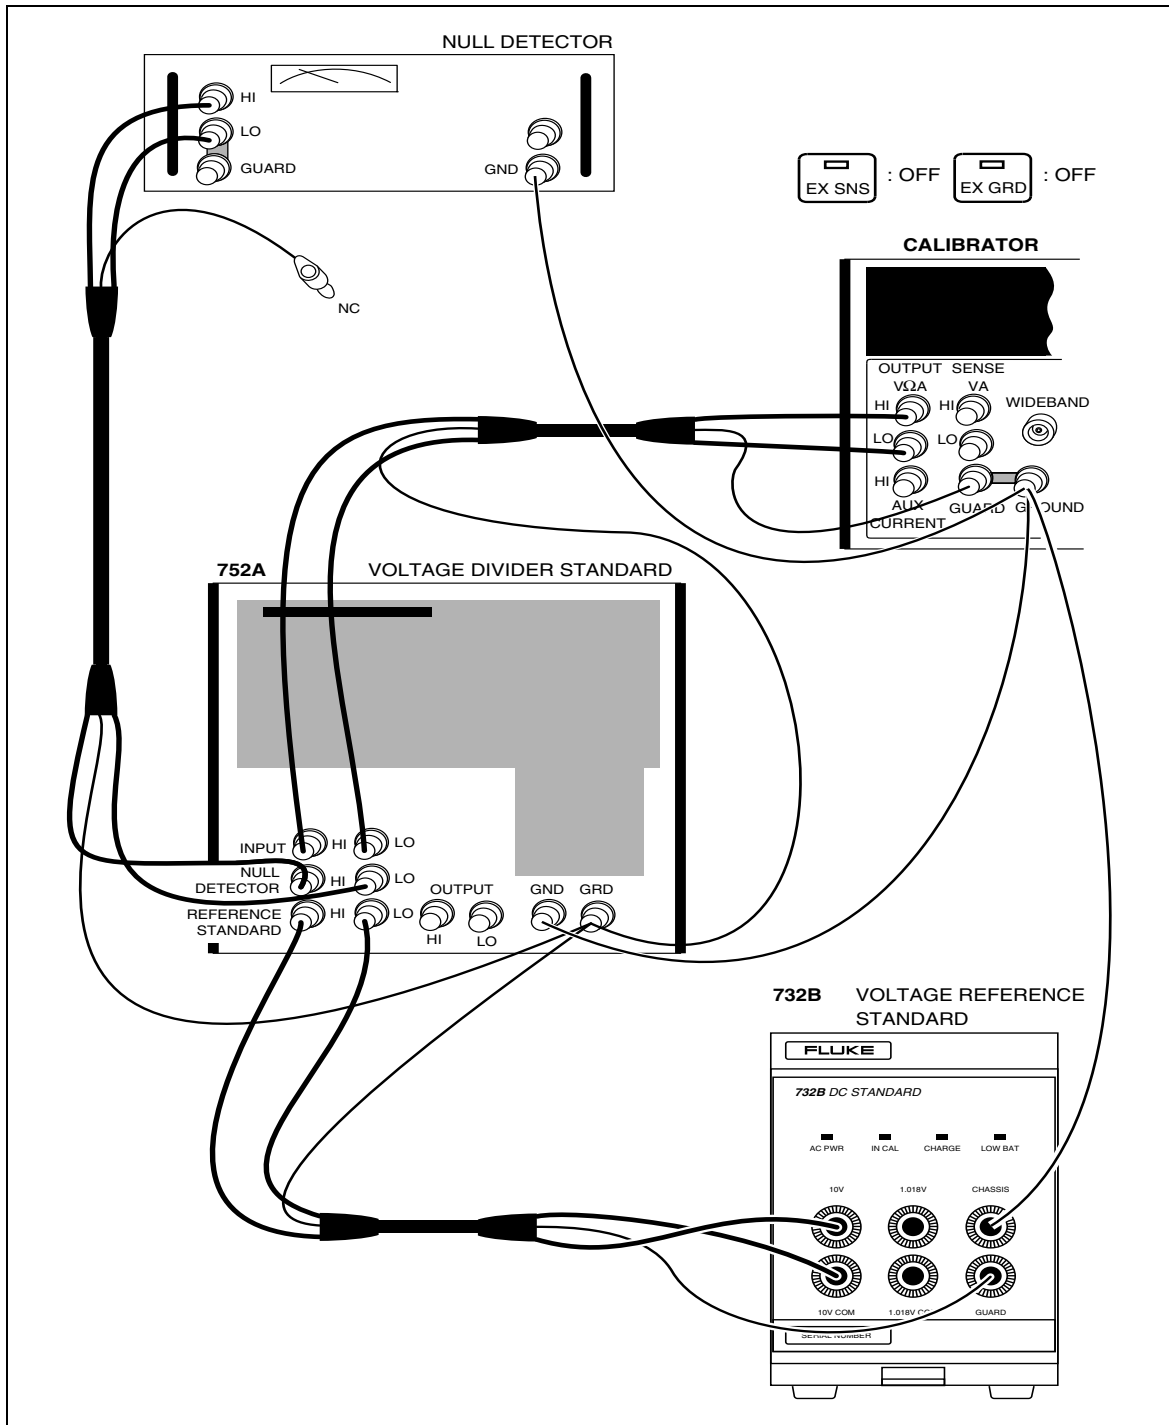

Figure 3-3. 220V DC Range Calibration Connections
- Connect the 732B, null detector, and 752A in a 10:1 configuration, as shown in Figure 3-3.